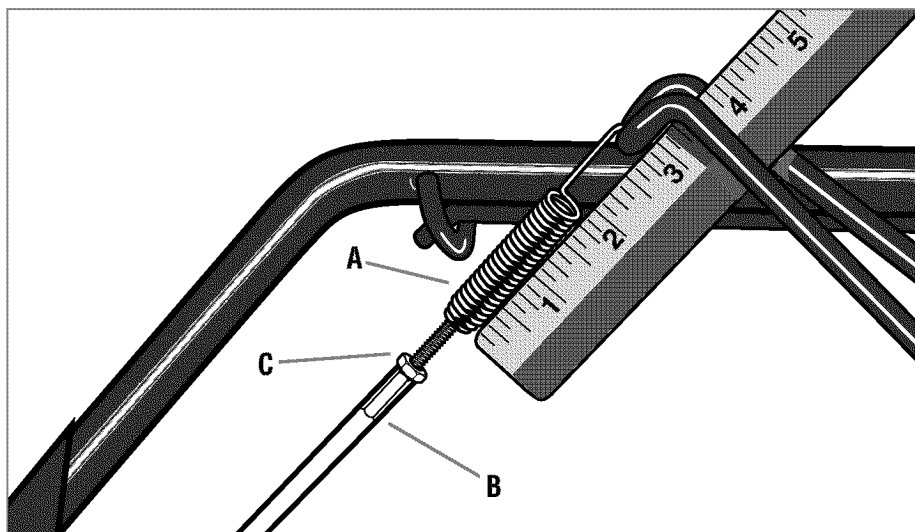

Figure 5-4: Lift bail and check length of Clutch Bail Spring to check for correct belt tension (1-7/8”).
2. Loosen nut “C” (Figure 5-4) several turns so it is about halfway up the threaded adjustment screw.
Measure the length of the clutch bail spring (A, Figure 5-4) with a ruler. If the belt tension is correct, the length of the coiled portion of the spring should be approximately 1-7/8”. Nut “C” should then be snugged down against the top of the adjuster (B).
5. To adjust the length of the spring, release the Forward Clutch Bail. Thread the hex nut (C, Fig. 5-4) halfway up the adjustment screw. Turn the screw inside the spring (A, Figure 5-4) counterclockwise (as viewed from the operator’s position) while holding the adjuster (B) steady to increase the length of the spring, or turn clockwise (as viewed from the operator’s position) to decrease the length of the spring.